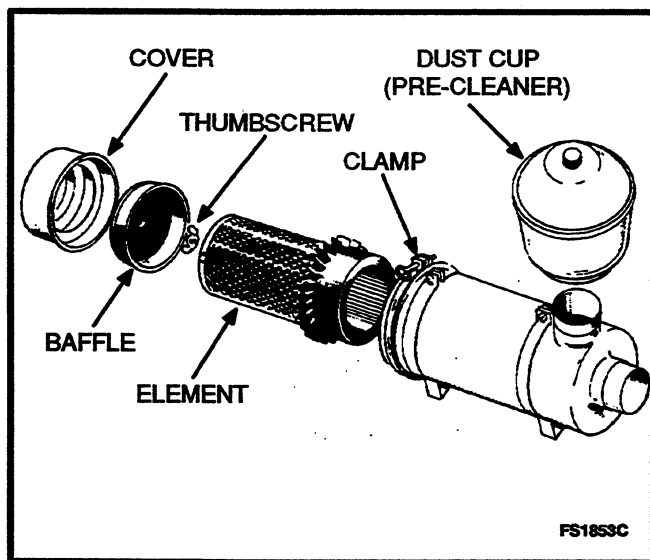

FIGURE 9-6. CONTRACTOR MODEL AIR CLEANER
1. Remove pre-cleaner (Figure 9-6) and wash out dirt. Dry and reinstall.